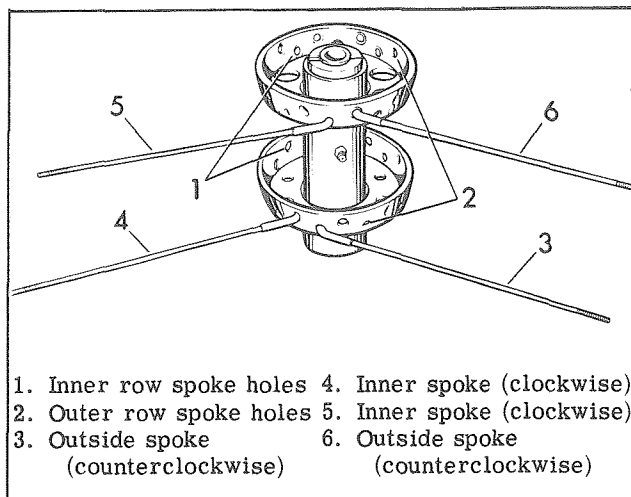

Figure 2C-15. Inserting Spokes in Rear Wheel Hub
2. Insert spokes (3) in ten outer spoke holes of brake side flange and swing loose end of spokes counterclockwise, as far as hub will allow.
5. Insert spokes (4) in ten inner spoke holes of brake side flange and swing loose end of spokes clockwise as far as hub will allow.
6. See Fig. 2C-16. Select any inner spoke (1), cross it over four outer spokes (2), and insert spokes in nearest lower rim holes. Start nipples.
7. Insert spokes (5, Fig. 2C-15) in ten inner spoke holes of opposite flange, (upper flange as positioned on workbench), and swing loose end of spokes clockwise as far as hub will allow. Then, insert inner spokes in nearest upper rim holes that angle in same direction as spokes and start nipples.